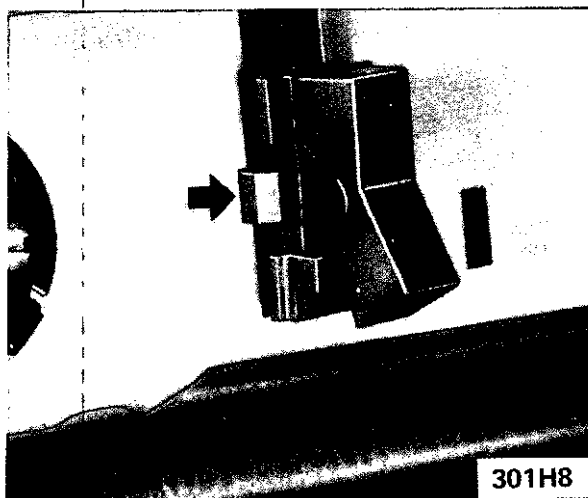

Figure 1H-8 . Removing Windshield Wiper Switch
2. Compress retaining clips and remove switch. See Figure 1H-8.